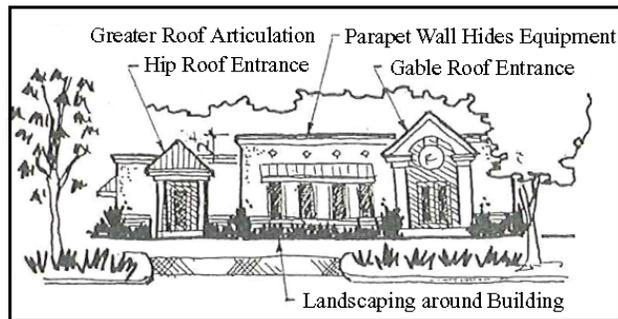

Figure 13
- A porch, portico, arcade, or other similar element shall be located at the main entrance(s). See Figure 13.